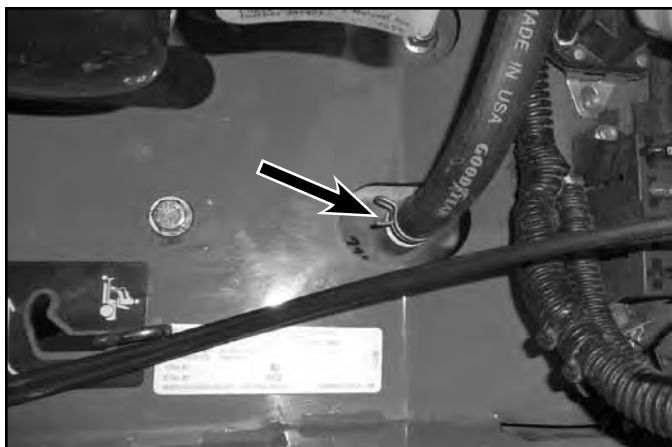

Fig. 079
10. Disconnect and plug the hydro reservoir hoses at the hydro fitting. Be sure to capture and dispose of fluid and shop towels properly (Fig. 079).